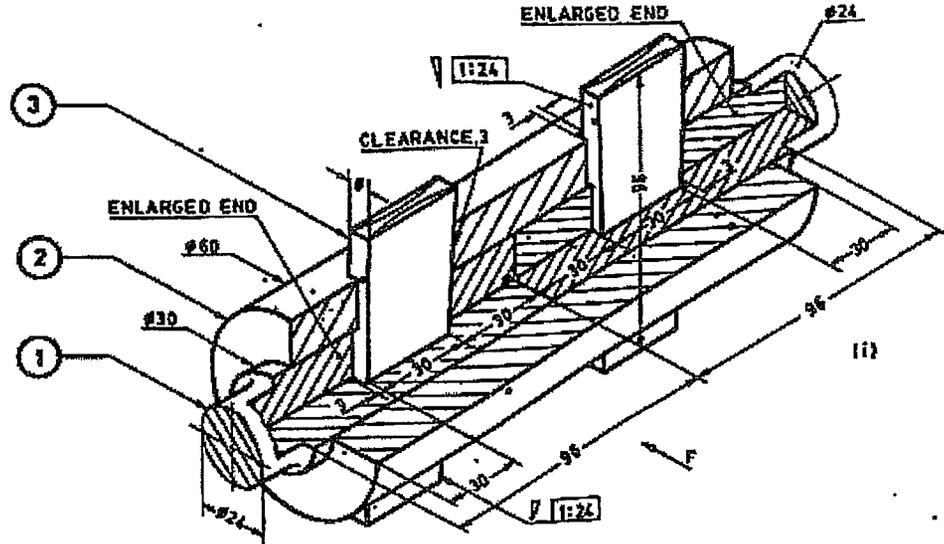

Figure 2
- II. An isometric view of a sleeve and cotter joint is shown in Figure 2. 20 L3 3 1